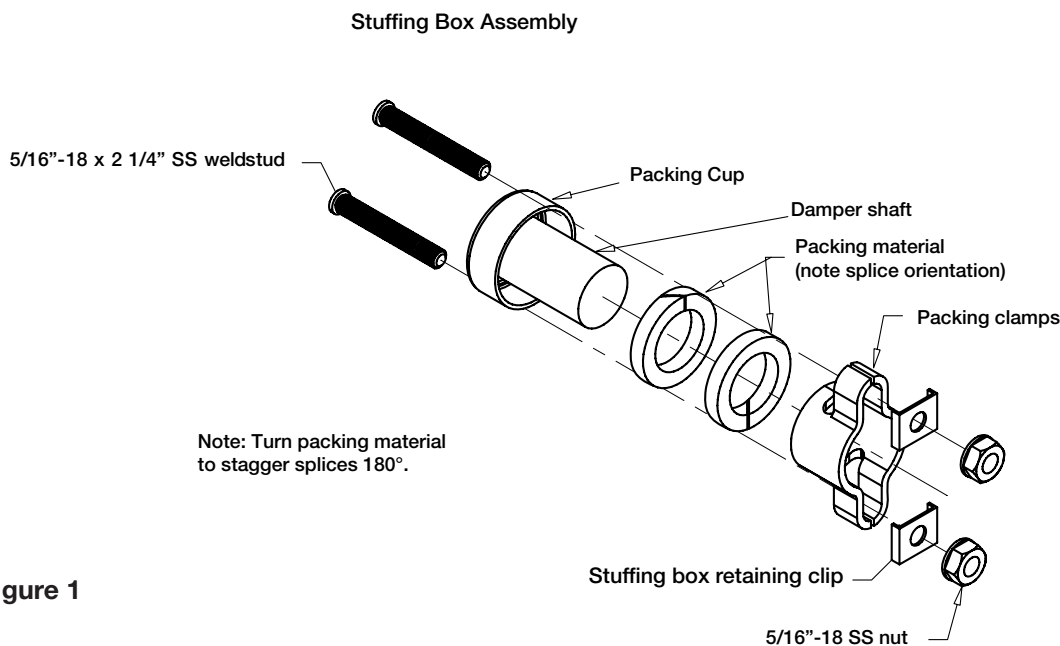

Figure 1
- 1) Replaceable packing material may deteriorate due to wear, oxidation or exposure to adverse chemicals. Replace as necessary. Greenheck provides a unique sealing construction with a two- piece packing clamp that splits to allow easy access to the packing material. See **Figure 1**.